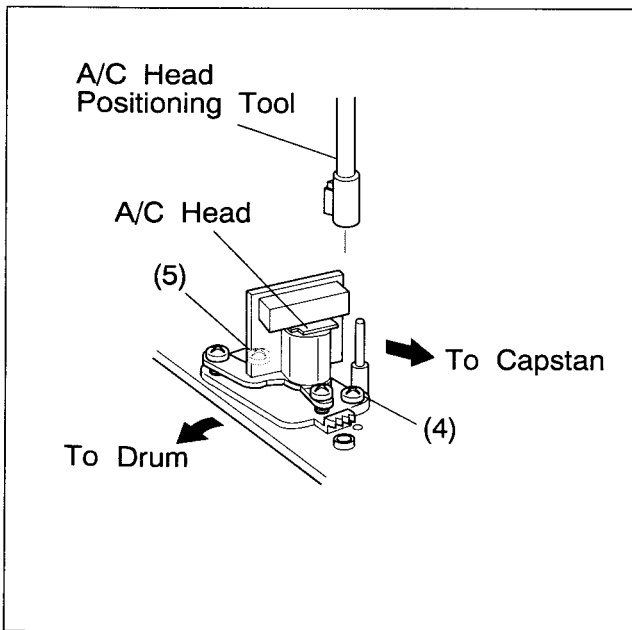

Fig. 2-7-6
- (1) Connect the oscilloscope to TP6(PB FM) on the PRE/REC board. Use TP11(D.FF) on the PRE/REC board as a trigger.
- (2) Playback the SP stairstep portion of the alignment tape [MHPE].
- (3) Set the neutral manual tracking position by pressing the **///** button on the remote controller or TV PROG "-" and "+" buttons simultaneously.
- (4) If adjustment is required, slightly loosen screws (4) and (5). Set A/C head positioning tool on the A/C head adjusting boss as indicated in Fig.2-7-6.